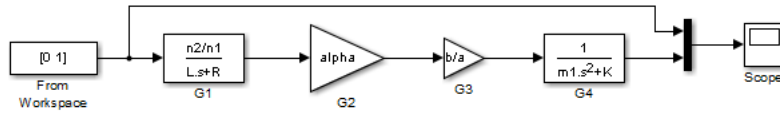

Figure 9.10: SIMULINK file of Example 9.12.
**Example 9.12.** Let us simulate the mechatronic system of Examples 8.2 and 9.6, given by (9.26)–(9.29). The **SIMULINK** file is as shown in Figure 9.10 and its running time was set to 3 s; variables have been used and must be defined before running the simulation, but this means that they are easier to change. Block **From Workspace** has matrix `[0 1]`, meaning that at time 0 it will output value